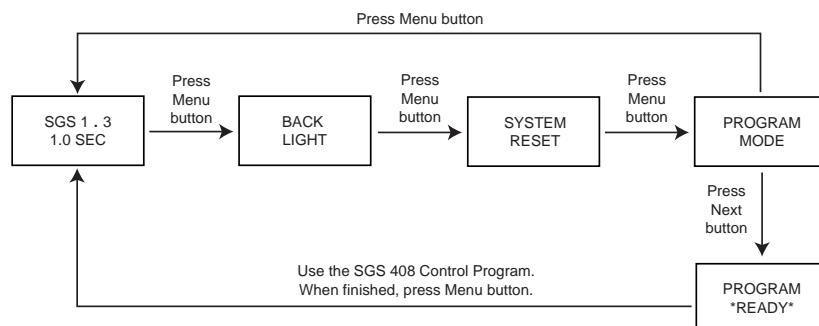

Figure 3-5—Programming the ECP 1000
1. From the default screen, press the Menu button three times. The Program Mode menu appears (figure 3-5 on the next page).